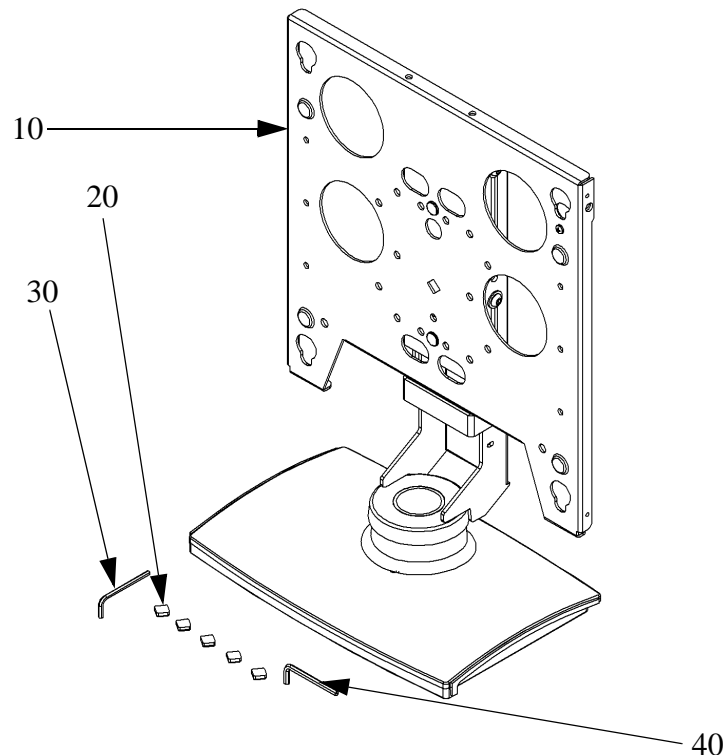

Figure 1. Parts
3. Carefully inspect all components for damage (See table 1 and Figure 1).